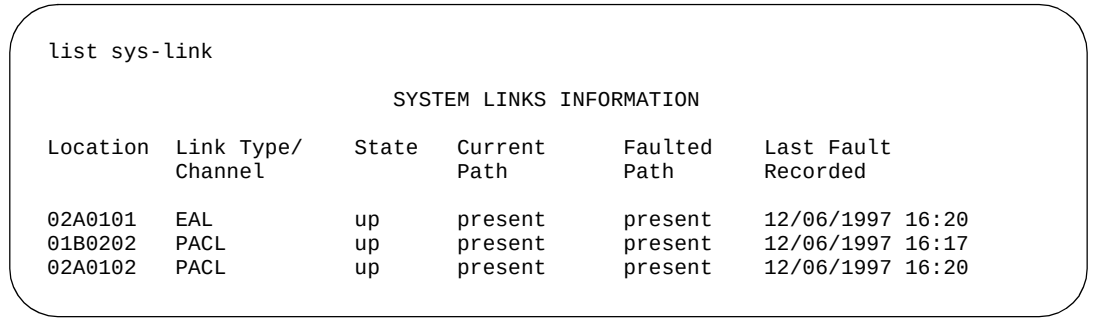

Figure 1-58. List sys-link screen
1. Enter **list sys-link** on the DEFINITY SAT. Figure 1-58 shows the screen output.